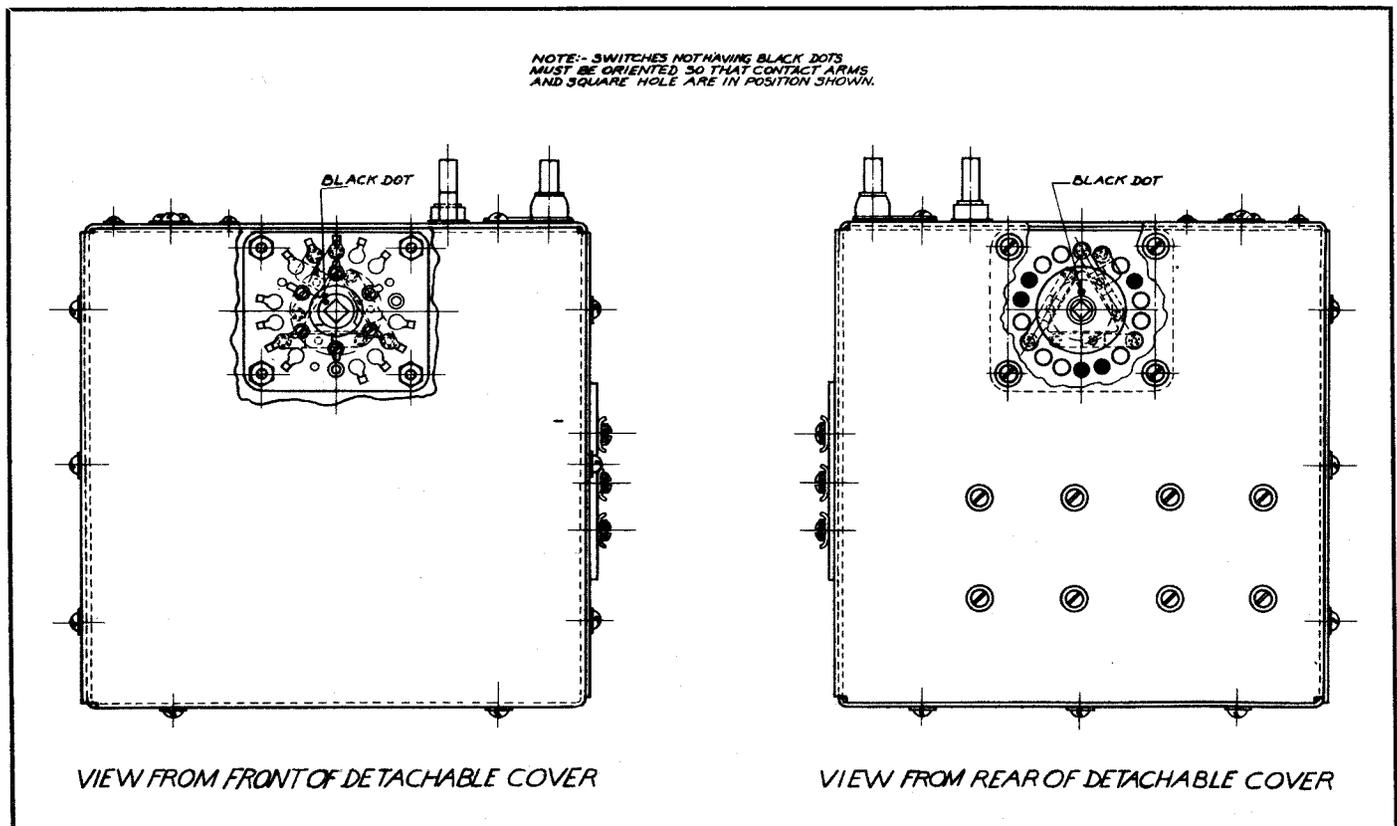

Figure 7-21. RBB/RBC, R-F Box Removal—Board Switch in No. 2 Position
(2) REPLACEMENT OF R-F BOXES, RBB/RBC.—To replace an r-f box, first make sure that the dial mechanism is set on Band 2 and that the switch rotor is in the Band 2 position as shown on Figure 7-21. Switches must be properly oriented in accordance with the above instructions before removing or inserting the switch shaft.